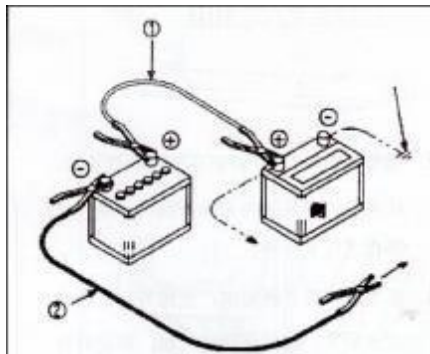

Fig 3-5
1. Use the booster wire ① (Figure 3-5) to connect the positive terminal of the auxiliary battery to the positive terminal of the used battery of the excavator.
2. Use the booster wire ② (Figure 3-5) to connect the negative terminal of the auxiliary battery to the ground point of the upper platform. Do not connect directly to the negative terminal of the battery.